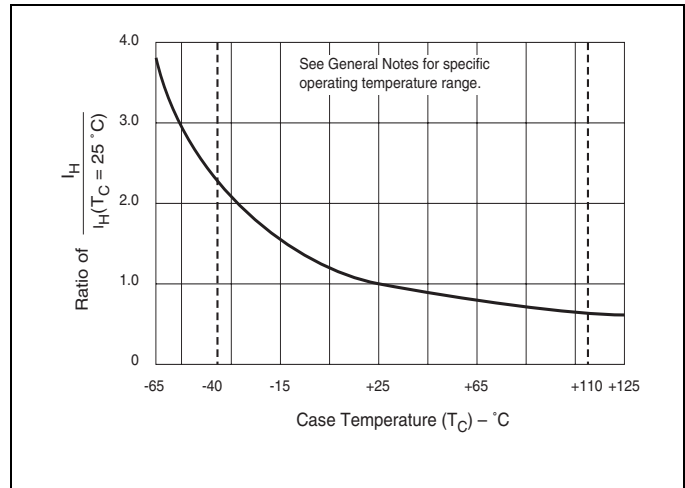

Figure E5.13 Normalized DC Holding Current versus Case Temperature
- (5) See Figure E5.13 for I_H versus T_C or T_L .